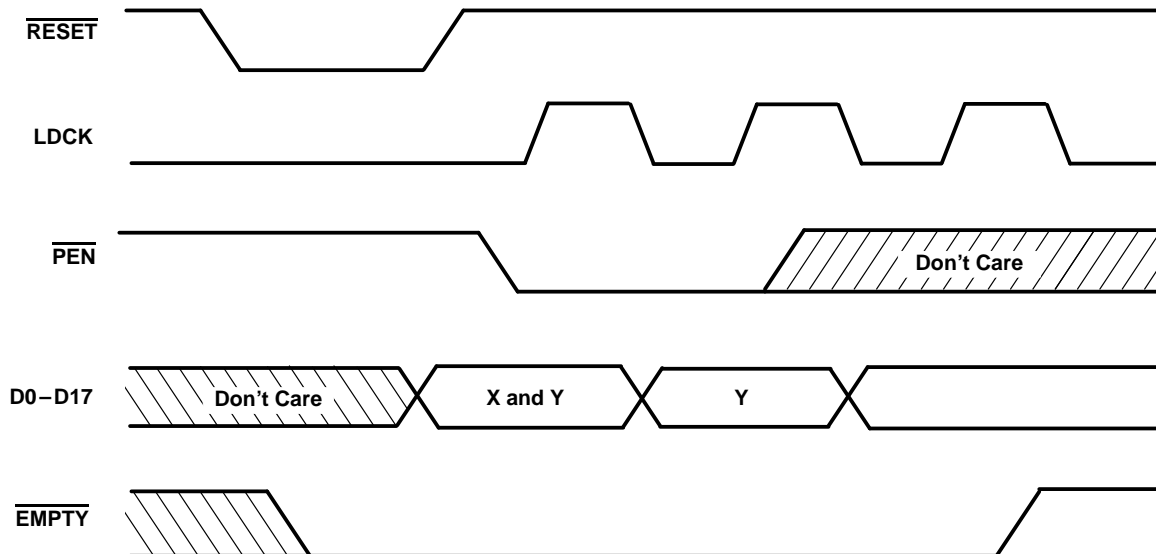

Figure 2. Programming X and Y Separately
To program the offset values, $\overline{\text{PEN}}$ can be brought low after reset. On the following low-to-high transition of LDCK, the binary value on D0–D7 is stored as the almost empty offset value (X) and the almost full offset value (Y). Holding $\overline{\text{PEN}}$ low for another low-to-high transition of LDCK reprograms Y to the binary value on D0–D7 at the time of the second LDCK low-to-high transition. Writes to the FIFO memory are disabled while the offsets are programmed. A maximum value of 255 can be programmed for either X or Y (see Figure 2). To use the default values of $X = Y = 64$, $\overline{\text{PEN}}$ must be held high.